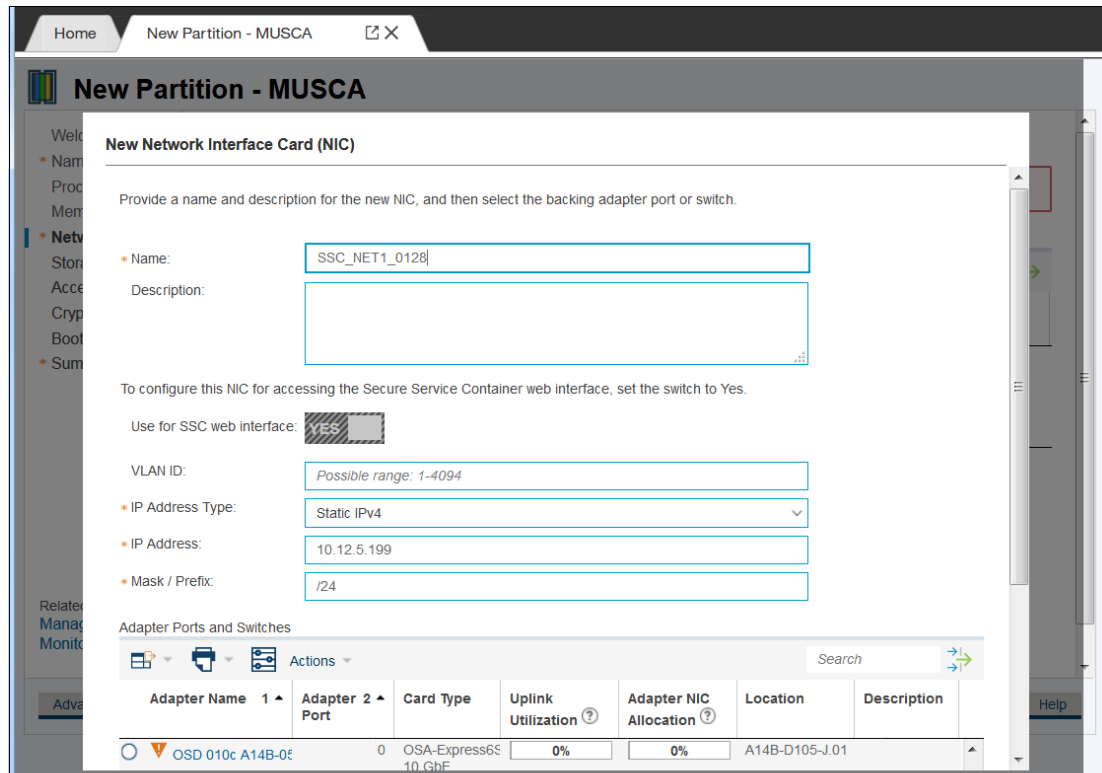

Figure 16-53 NIC description and IP information
6. Configure TCP/IP information for the NIC (otherwise, the installer interface might not be accessible). The configuration we used is shown in Figure 16-53.